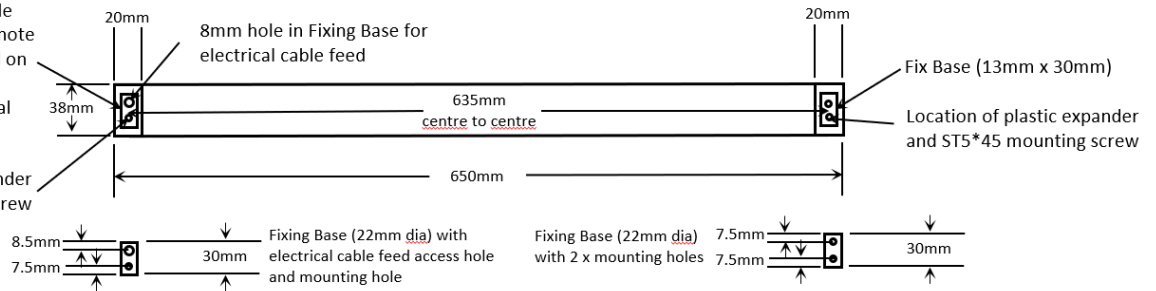

Fig 2.
Step 6: Mount the 2x fix bases into the wall by first inserting the plastic expander (6mm) and then screwing the ST5*45 mounting screws into place. (Fig 2)